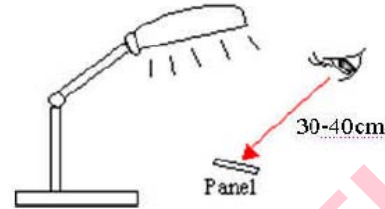

Figure 2
- e. Display panel shall be conducted at the distance 30cm~40cm between the LCD module and eyes of inspector (See Figure 2)